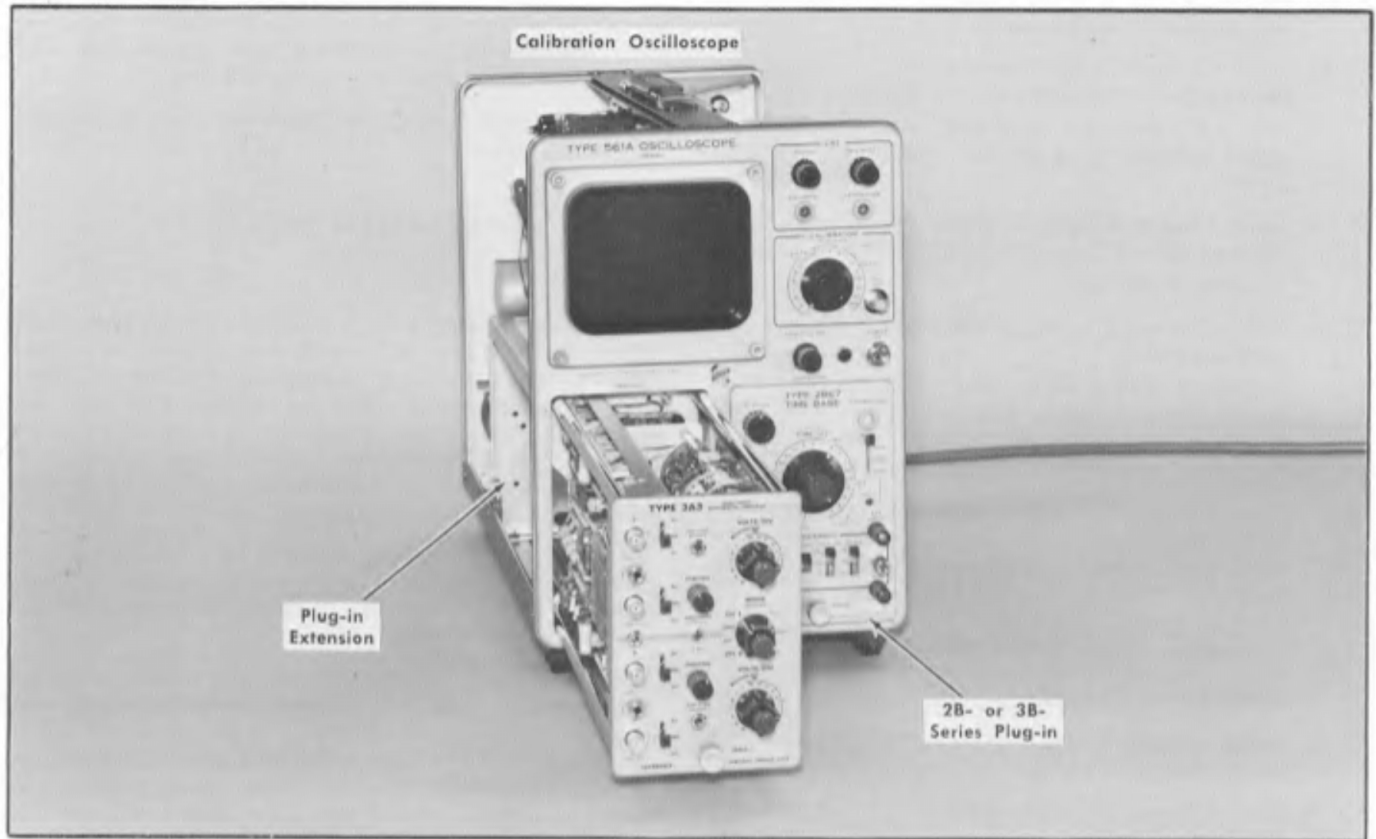

Fig. 6-1. Initial test equipment setup for steps 1 through 6.
- a. Test equipment setup is shown in Fig. 6-1.